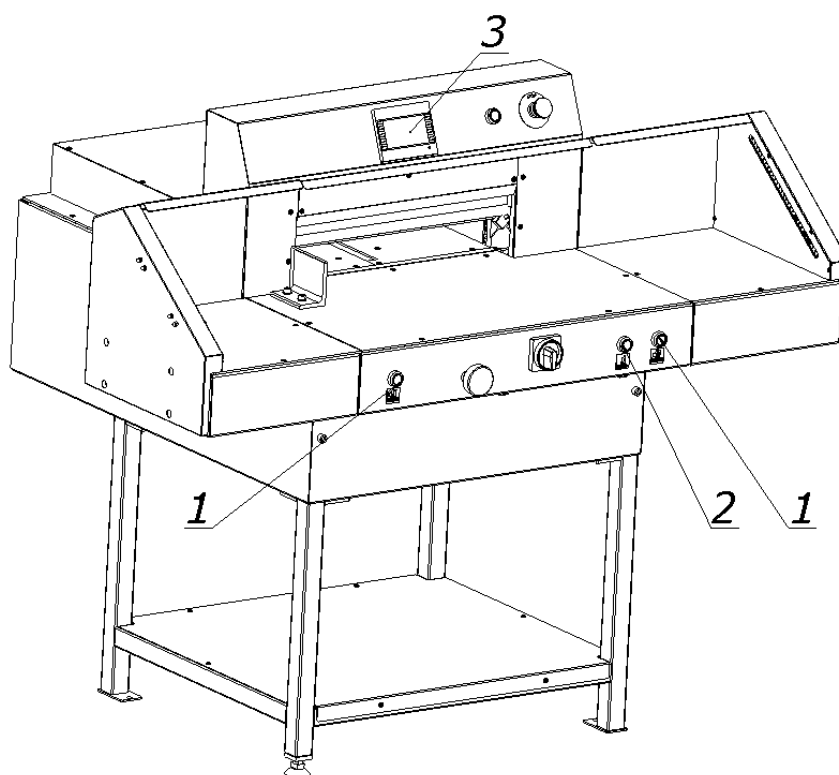

Figure 18. Operating elements during use during clamping.
Press the left cutting button 1  and the pressure button 2  simultaneously (Fig.18)
1. Press simultaneously the left cutting button 1  and the pressure button 2  (fig.18)
Changes of the clamping force are made on the screen of the programmer 3 (Fig.18)